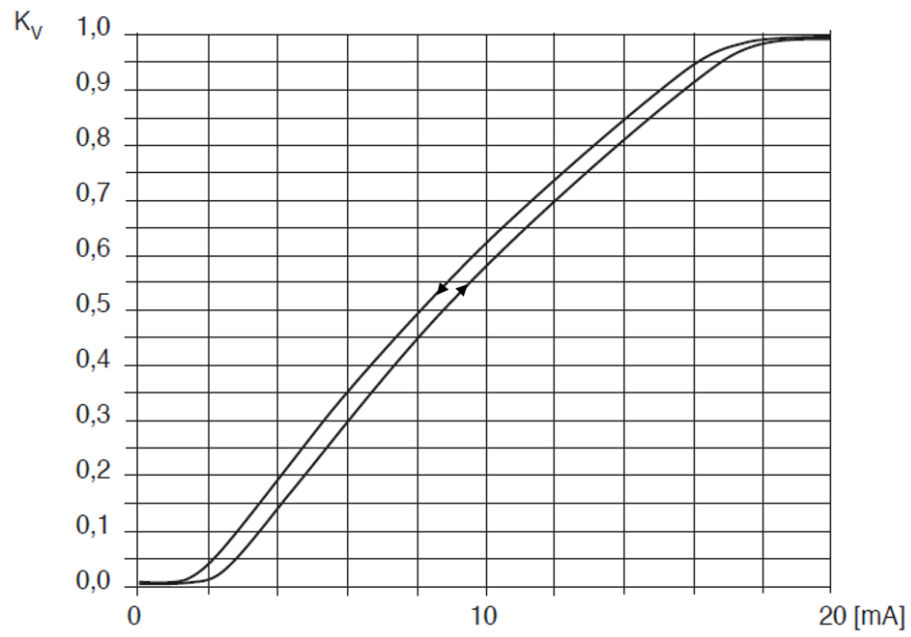

Figure Q1. Proportional solenoid valve hysteresis curve.
- a. If the desired flow rate and output pressure across the proportional solenoid valve is $47.5 \text{ m}^3\text{h}^{-1}$ and 3 bar respectively, using Figure Q1 (next page), determine the displacement of the proportional solenoid valve, given that the valve has only just been powered on.